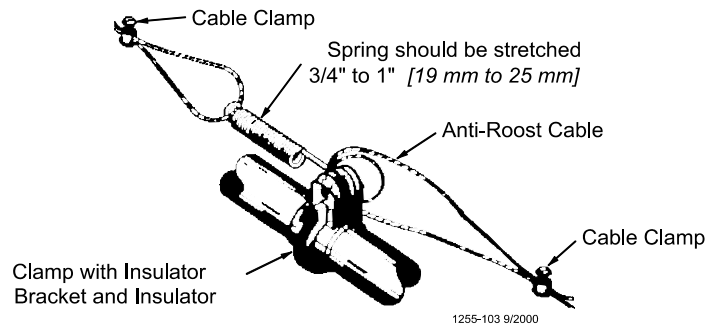

Figure 68. Anti-Roost Cable at the Spring
4. Attach a spring in the center groove at the second anti-roost bracket and cut the cable at this point. See **Figure 68**.
5. Thread the ends of the cable through the end of the spring. Pull the cable tight so that there is 3/4" to 1" [20 to 25 mm] of stretch in the spring. Clamp the cable to form a loop and cut off any excess. See **Figure 68**.
6. Attach the cable to the insulator. For best results, make a double loop around the anti-roost insulator in the center groove of the insulator and fasten with a 1/16" cable clamp as shown in **Figure 68**.